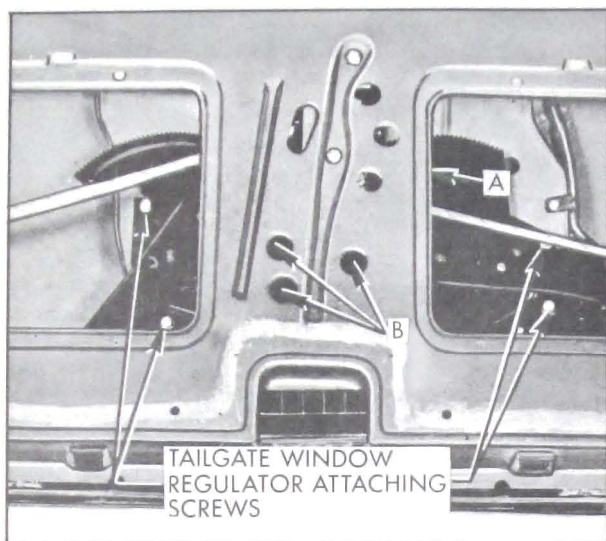

Figure 4-27—Tail Gate Window Regulator Attachment
2. Loosen tail gate lock remote control attaching screws (Figure 4-27) and move remote control towards bottom of tail gate sufficiently to disengage end of handle push rod from hole in remote control lever.
3. Remove handle attaching screws located under handle (Figure 4-27) and remove handle assembly (includes push rod) from tail gate.
3. Remove tail gate lock remote control attaching screws (Figure 4-27). Disengage remote control from inside handle push rod and remove remote control from tail gate.
4. Check operation of tail gate locking mechanism. To open tail gate when window assembly is removed, depress tail gate lock remote control locking lever at location "B" (Figure 4-27) and at the same time operate the tail gate remote control inside handle.